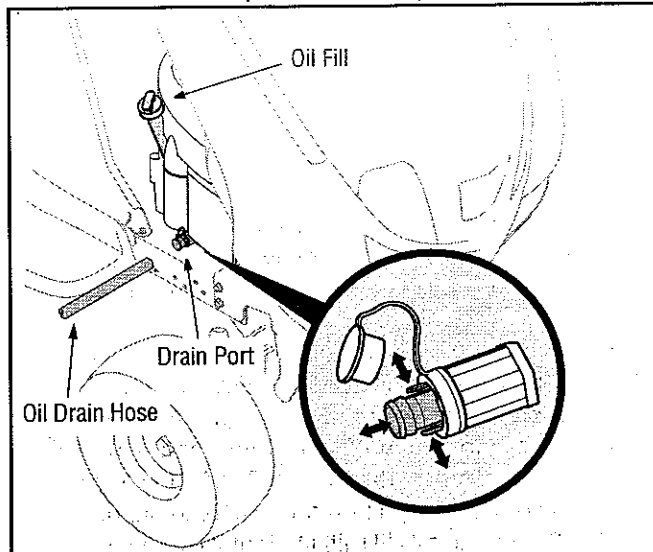

Figure 18
1. Clean the area around the oil fill cap/dipstick to prevent debris from entering the crankcase. Refer to Figure 18.
1. Pop open the protective cap on the end of the oil drain valve to expose the drain port. See Figure 18.